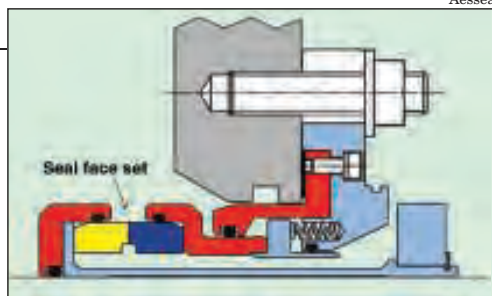
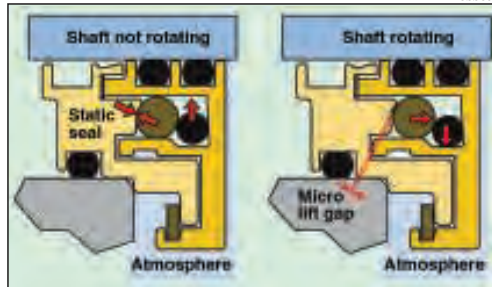

FIGURE 1. A single-type, heavy-duty mechanical seal for lime slurry service is highlighted in this pump illustration.
FIGURE 2. Shown here is a half-section of a modern bearing housing protector seal — with the shaft not rotating (left) and with the shaft rotating (right)
pumps were first marketed in the mid- to late-1980s). But, suppose one later had the option to convert from grease to liquid oil lubrication. Assume one had also selected a cartridge-style mechanical seal (Figure 1) where component-style seals had been used previously, and that the user had added an advanced bearing-protector seal (Figure 2). Suppose these improvements would increase the operational lives of mechanical seals and bearings from the previous value of 2.5–5 years to 3.5–10 years, and would also make the pump more suitable for working in a mild lime slurry service. In that case, the expression in Equation (5) would apply, and we would probably have reason to expect a continuous pump operating life of 2.93 yr [6].
Perhaps the most familiar form of cost justification practiced on a wide scale compares the incremental cost of an upgrade option with the yearly value of maintenance cost avoidance. With that goal in mind, let's take another look at the pump-upgrade example discussed above. Recall that for the proposed upgrades, an older-style mechanical seal would be replaced with the cartridge seal shown in Figure 1. Also, the bearing protectors with the lip-seal style in this centrifugal pump would be discarded and the bearing-housing-protector seal with an advanced design — in this case, a rotating labyrinth design, as shown in Figure 2 would be used instead [6]. We make the following two assumptions:
Attractive and reasonable projections along the lines of what we just discussed contributed to wider use of a variety of different bearing-protector seals in the mid-1990s. Then, with time, more-advanced styles became available. Figure 2 shows a successful configuration, which was first marketed in 2003. If we decided to install it today and used the same calculation approach, we find its cost-to-benefit ratio surprisingly attractive.